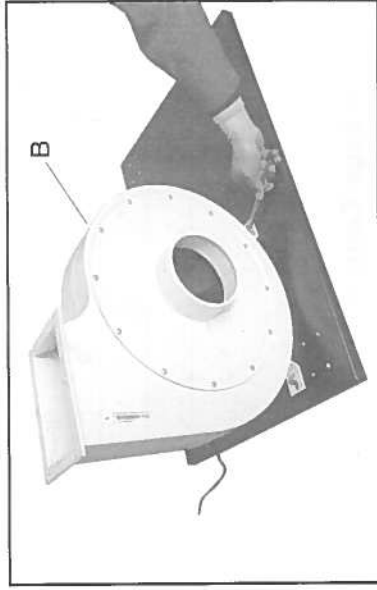

Fig. 2
the collector body and fan/motor assembly (B) in place, secure it to the base plate using the screws and washers as shown in Fig. 2